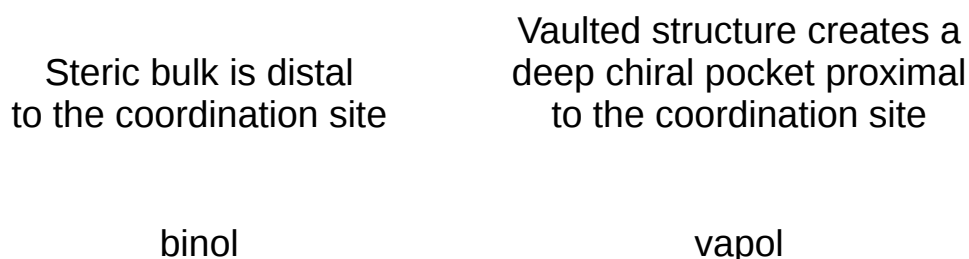

Figure 1. Comparison of (S)-BINOL and (S)-VAPOL Structures
Caption: Figure 1. Comparison of (S)-BINOL and **(S)-VAPOL** Structures.